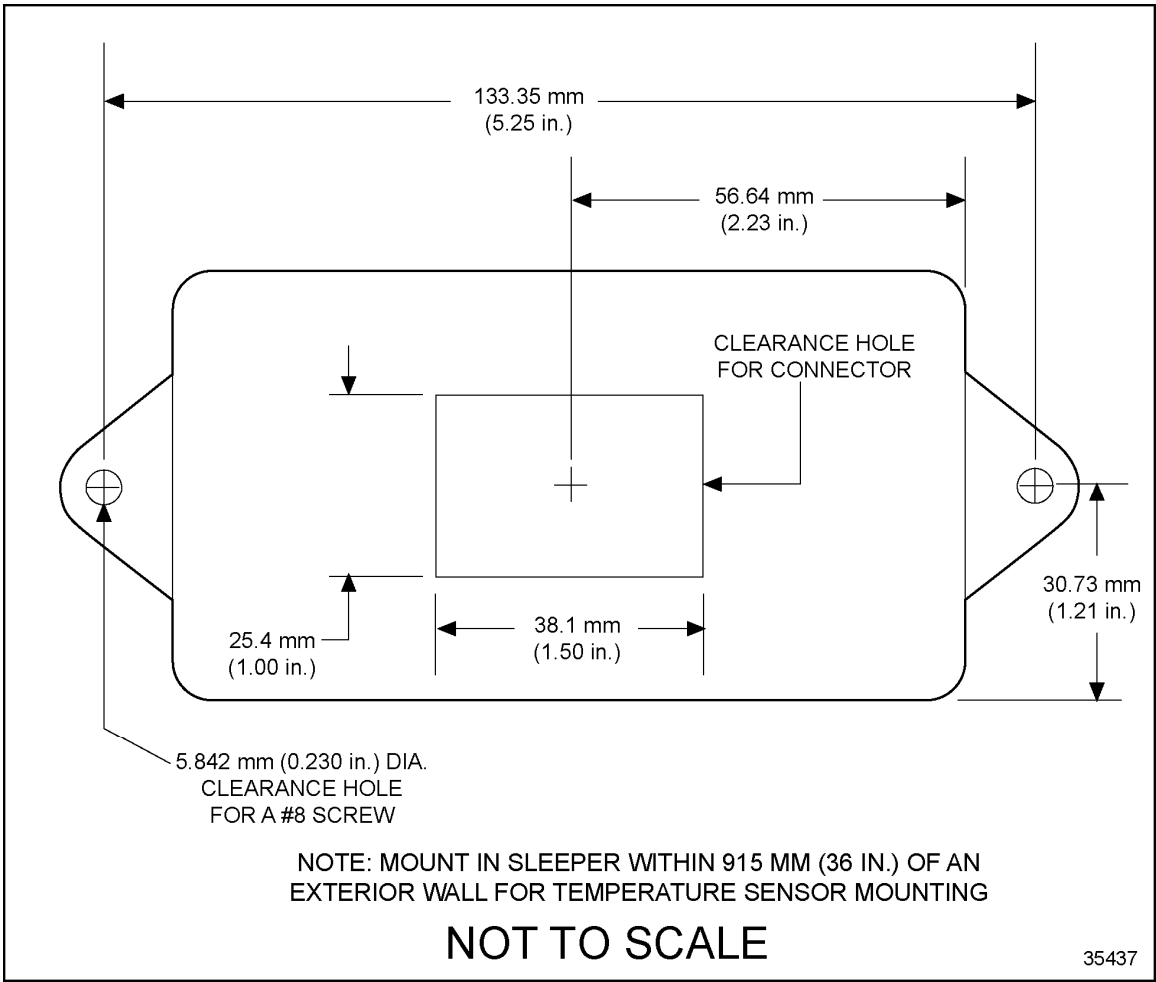
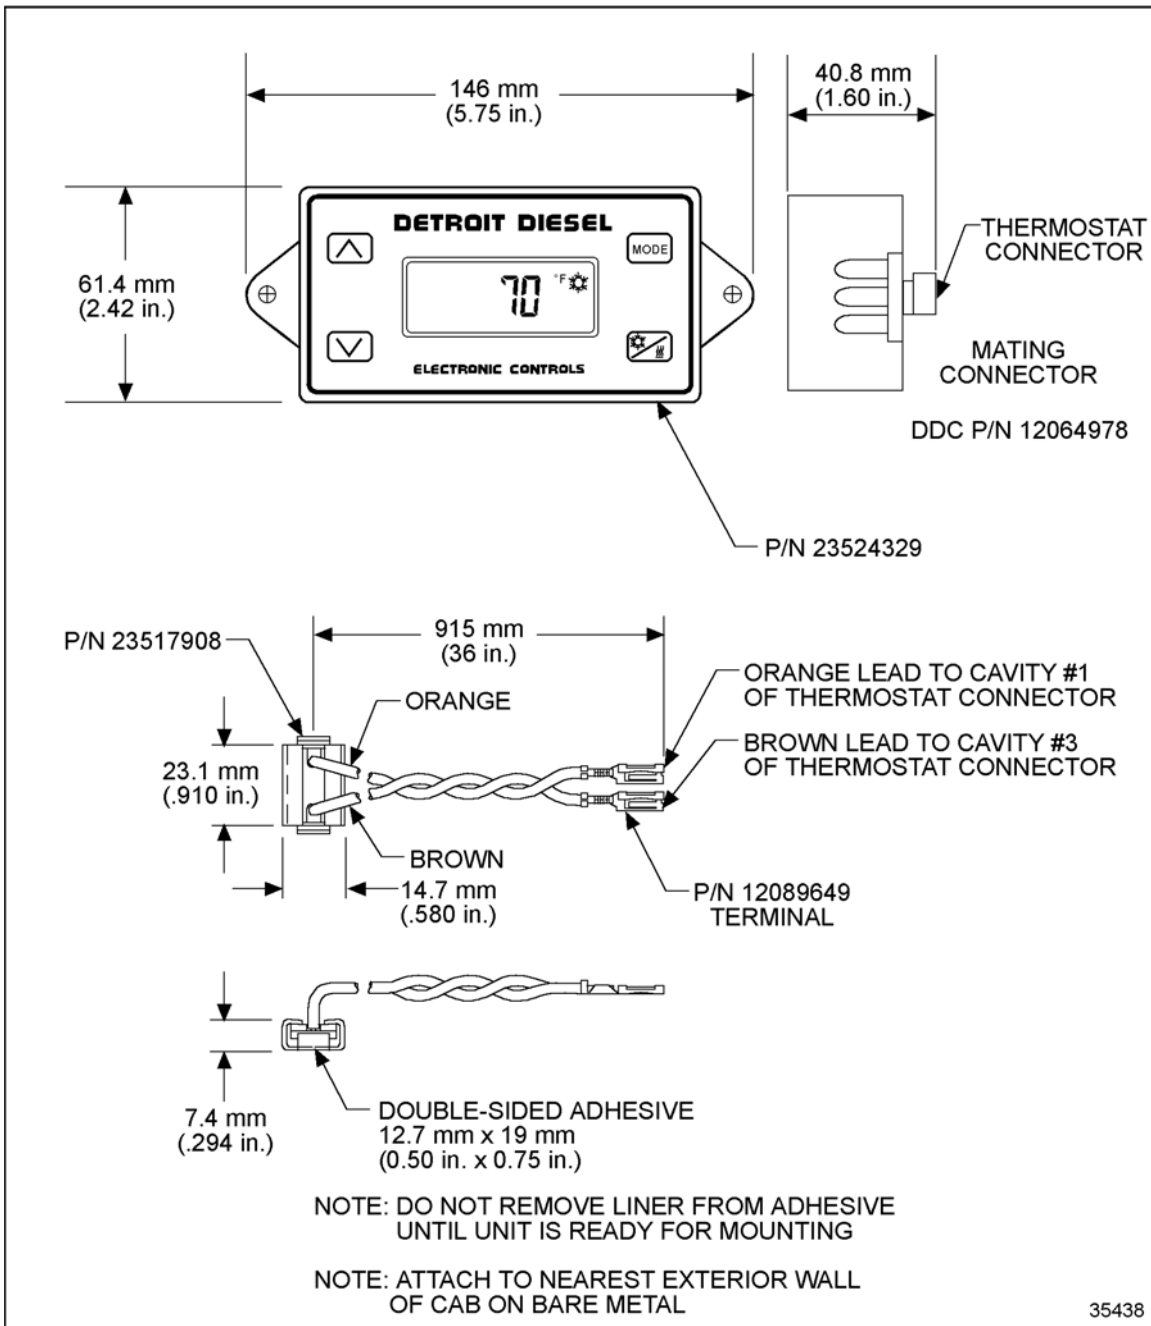

Figure 3 Thermostat Mounting Template
Figure 4 Cab-mounted Thermostat and Temperature Sensor
The thermostat, in conjunction with the exterior temperature sensor, indicates that DDEC needs to start the engine to heat or cool the sleeper/cab area. The thermostat module must be mounted with the connector recessed in the desired panel, near an exterior wall where the exterior temperature sensor is located. The thermostat module is not water-tight, so mounting location must be one that is not exposed to water. See Figure 3 for the thermostat dimensions for mounting purposes. The exterior temperature sensor is used by the thermostat to determine the continuous run conditions for the engine. It is attached to the inside surface of an exterior cab wall, with a 36 inch wire lead. The terminals on the end of the wires are inserted into the thermostat connector. See Figure 4 for the thermostat and exterior temperature sensor.
4. Route the twisted leads to the thermostat location (see Figure 4).
5. Cut a hole in the desired panel for the thermostat connector using the template for the thermostat (see Figure 3).